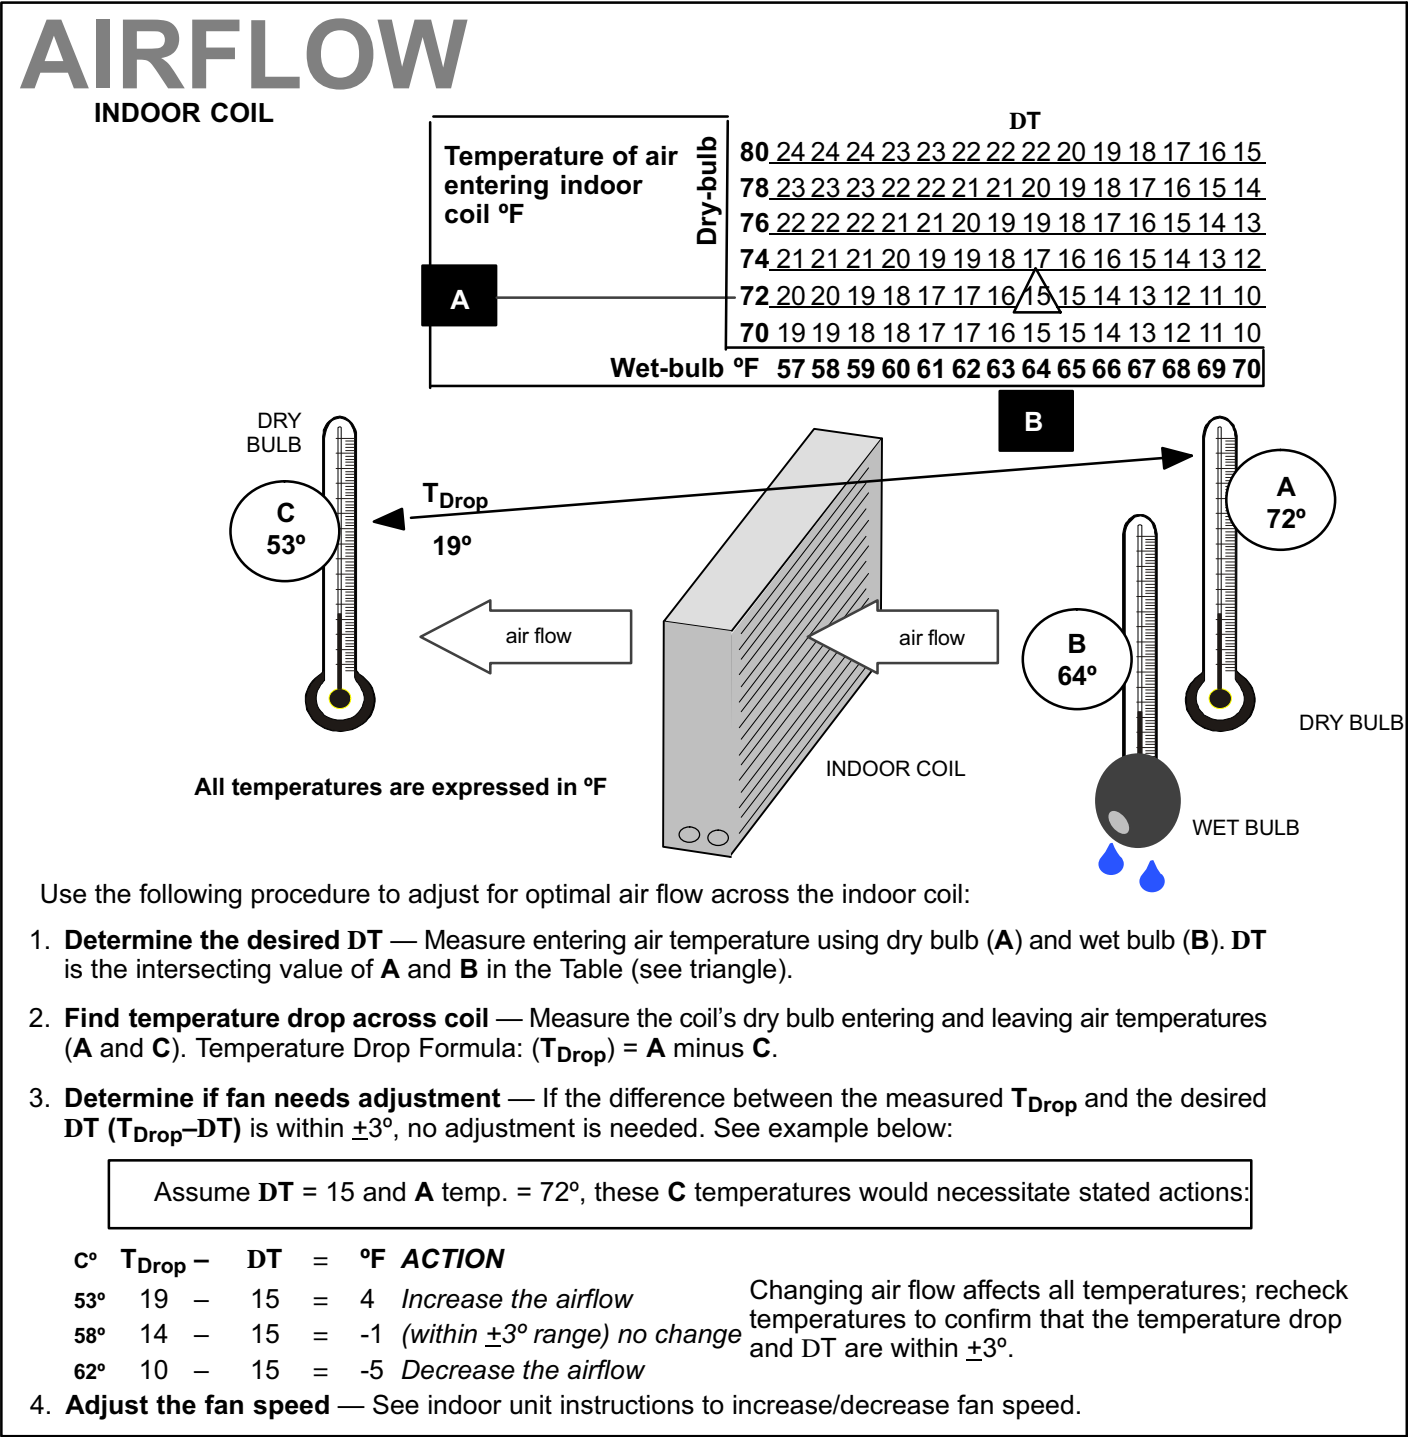

Figure 9. Checking Indoor Airflow over Evaporator Coil using Delta-T Chart
Check airflow using the Delta-T (DT) process using the illustration in Figure 9.
- 1 Check the airflow as illustrated in figure 9 to be sure the indoor airflow is as required. (Make any air flow adjustments before continuing with the following procedure.)